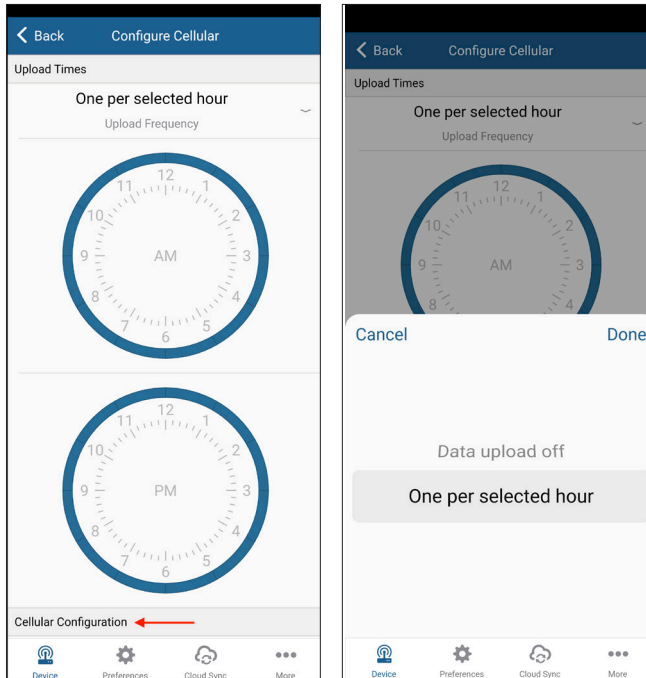

Figure 6 Configure Cellular upload frequency
8. In the **Selection** menus, choose upload frequency (Figure 6).